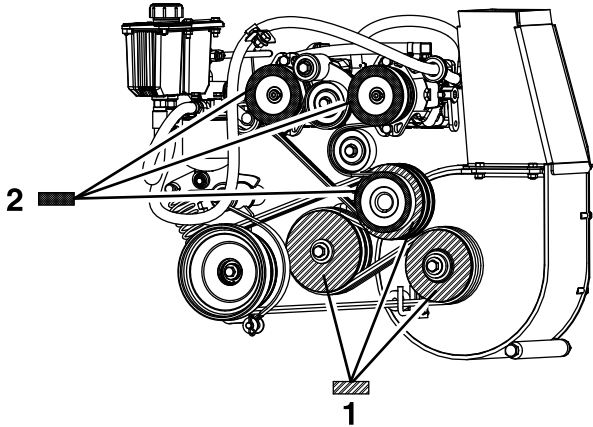

Figure 56
8. Measuring from the blower pulley as a baseline, move the engine and jackshaft until the rear surface of all 3 pulleys are aligned within 0.8 to 1.6 mm (1/32 inch to 1/16 inch) (Figure 56).
4. Using a straight edge, align each pump pulley with the engine pulley by sliding it along the pump shaft (Figure 56).